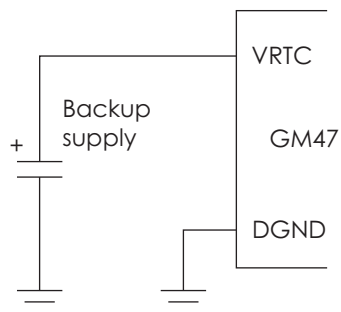

Figure 2.10 RTC connections
- RTC back-up mode: VCC is disconnected and the RTC is maintained by a separate backup power supply connected to the VRTC input (see Figure 2.10 below).